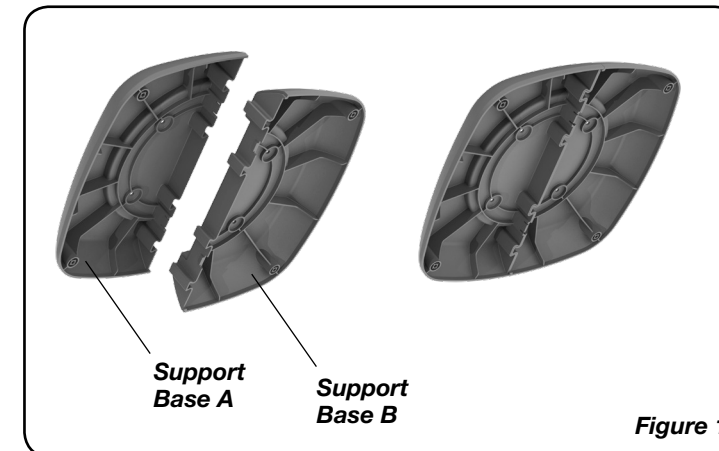

Figure 1
2. Assemble the Support Base Halves by interlocking Support Base A into Support Base B. (Figure 1)